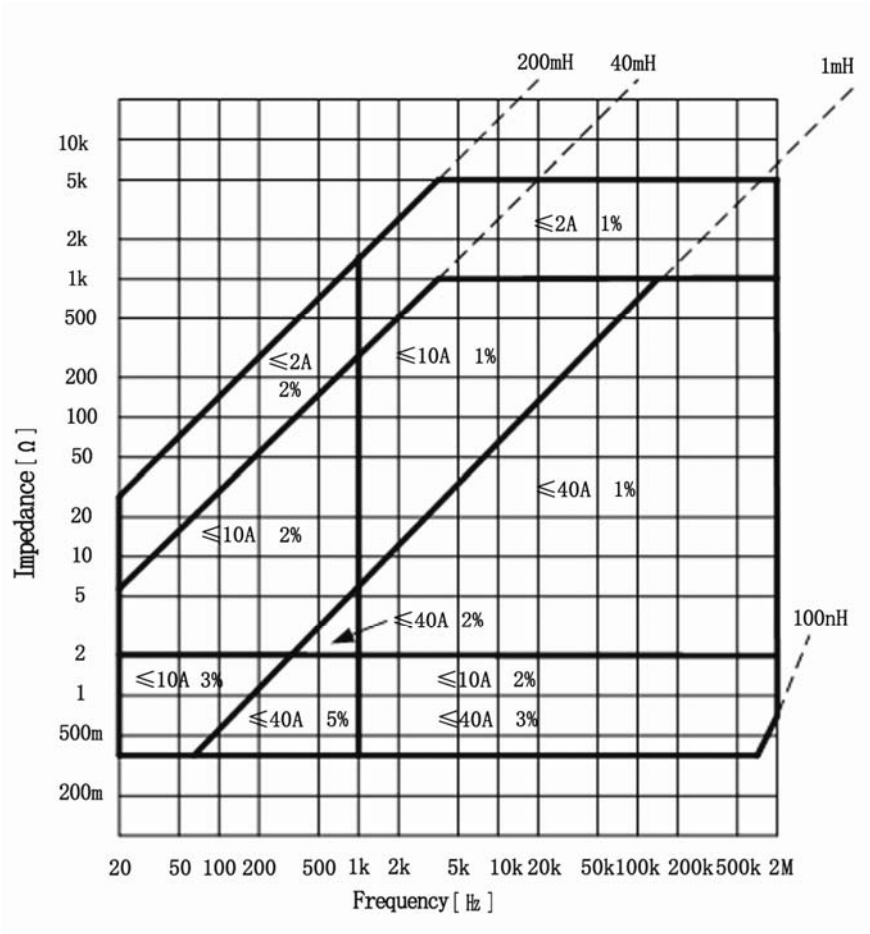

Figure 4-6 TH1776 inductance test accuracy (20A configuration)
(2) Pick up frequency along X axial from figure 4-6
(3) Pick up inductance along Y axial from figure 4-6
(4) Write the crossing point of the two steps above
- (5) If the value is on the boundary, then L can be confirmed according to the principle that the Max. current in the zone of actual-used DC current rate. Frequency is 1kHz, $L_x=10\text{mH}$, DC bias current is 5A